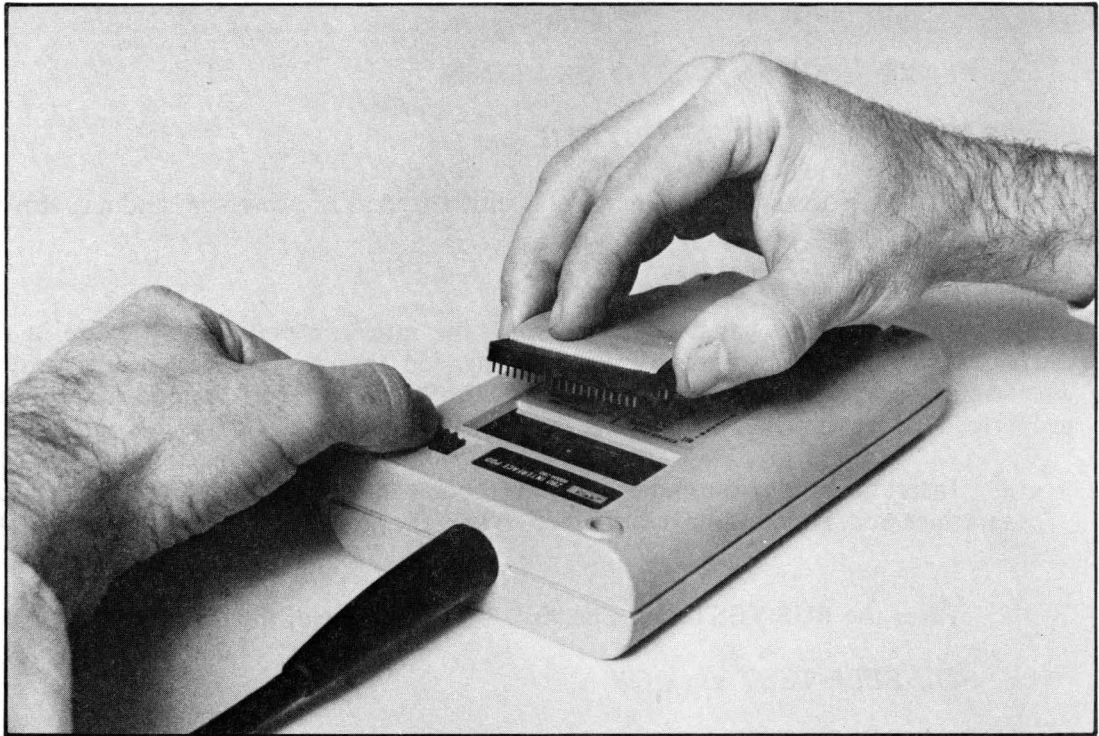

Figure 4A-2. Interface Pod Self Test Connection
The interface pod cable plugs into a connector located on the front base of the main instrument under the keyboard. The location of the connector is shown in Figure 4A-1. The cable plug has a sliding metal collar which slides over small metal posts on the connector to lock the plug firmly in place.
1. Tip up the front of the main instrument to allow access to the connector. This is demonstrated in Figure 4A-1. Be sure 9010A power is off.
1. Insert the plug at the end of the pod ribbon cable into the self test socket on the interface pod, and turn the thumbwheel to lock the plug in the socket (see Figure 4A-2).